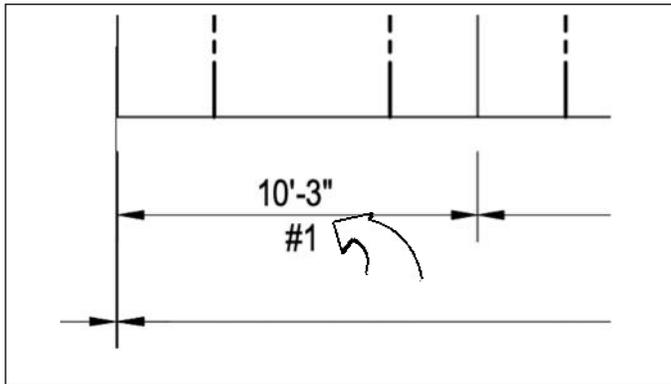

Fig 5
4. Using shop drawings, locate required frame for location on building. Frames will be marked with a number, as shown in drawings (Fig 5). For applications with connecting multiple frames, typically you will start from the left side.